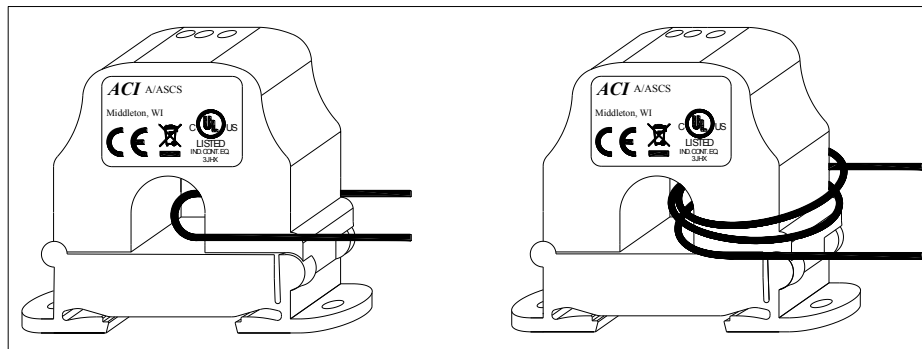

Figure 5: Wire Through Sensor
*For applications in which the normal operating current is below the 3.0A trip point (See **Figure 5** below), the conductor being monitored may be looped through the sensor 12 times giving you a total operating current of 12X the original current.*
Red LED didn't turn on and the current switch didn't activate	Verify that the conductor you are monitoring is above the adjustable trip point. If the sensor is monitoring less than the adjustable trip point See Figure 5 on Page 2.